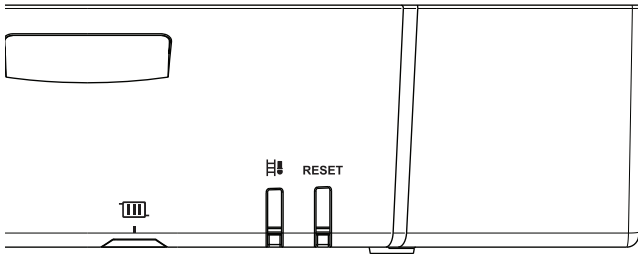

Fig. 2
4.4.1 USER INTERACTION CONTROLLER (Control Panel) (Fig. 2)